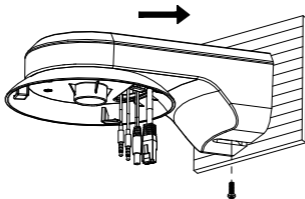

Figure 2-8 Install the Bracket
- 2) Align the bracket with the bracket seat installed on the wall, and push the bracket according to the direction as shown in Figure 2-8.
- 3) Fix the bracket with the PM4×10 screw as shown in Figure 2-8.